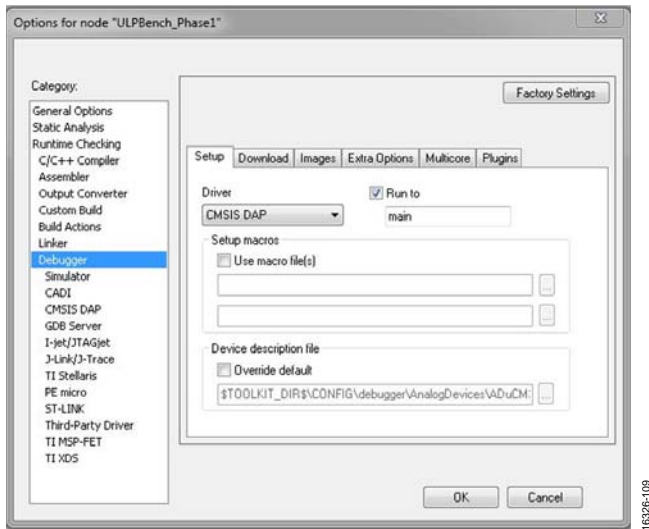

Figure 9. Debugger Menu—Setup Tab
- The debugger used is **CMSIS DAP**, selected from the dropdown list in the **Driver** pane of the **Debugger** menu (see Figure 9).